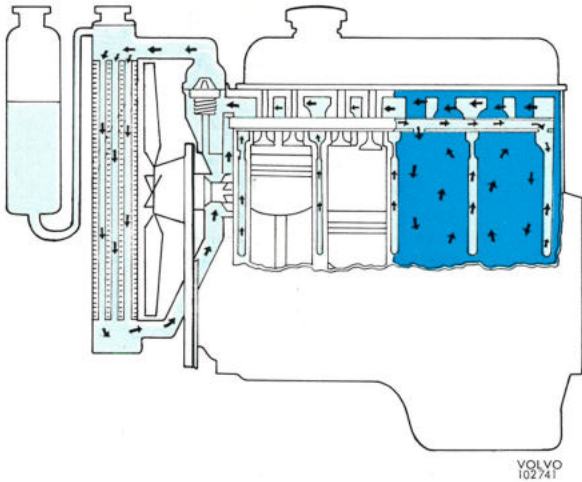
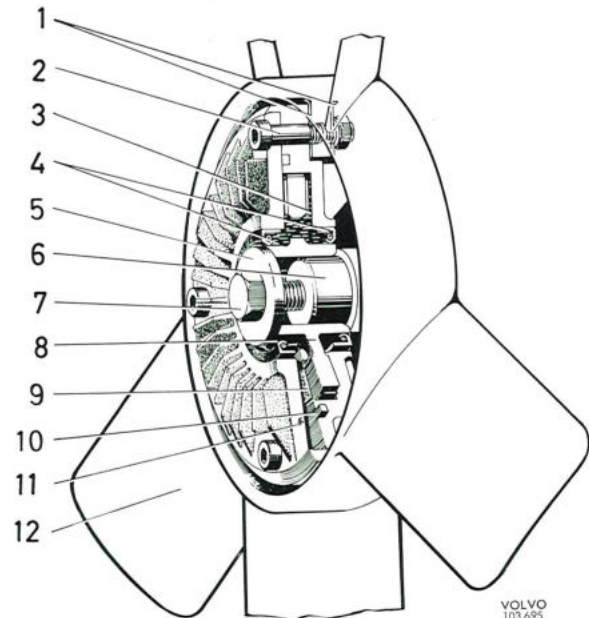
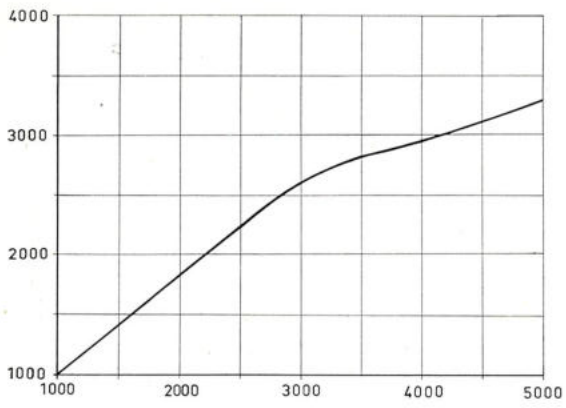

Fig. 2-123. Sealing cooling system
Fig. 2-124. Viscous fan
Fig. 2-130. Curve for fan coupling slip
The engine is water-cooled and the cooling system is of the sealed type, see Fig. 2-123. The B 20 A engine is fitted with a fixed fan. A speed-regulated fan, a so-called viscous type (see Fig. 2-124), is fitted on the B 20 B unit. Its function is to ensure that the fan blades do not exceed a certain speed even if the engine speed is exceeded. See Fig. 2-130. The five fan blades are mounted asymmetrically to keep down the noise level. The fan coupling consists of the casing (11, Fig. 2-124) in which the plastic fan blades (12) are secured with the bolt (2). The casing (11) has two halves which, however, cannot be separated for repairs, the fan coupling then being replaced complete. The hub (8) has a light fit on the water pump flange (6) and is locked by means of the center bolt (7). The hub is provided with a slip disc of friction material (9) surrounded by oil. During idling and at low speeds, the
slipping is insignificant, so that the fan provides an air current for good cooling. When the ingoing speed (that of the water pump) exceeds about 2600 r.p.m., the slipping increases (see Fig. 2-130). With this arrangement, the fan speed should never exceed about 3000—3500 r.p.m. The fan noise output would then be low compared with a fan which runs at the same high speeds as the water pump. Compared with this latter type of fan, the output loss will be less for the viscous type fan.
The fan coupling function can be checked with a stroboscope with variable blinking frequency. Make a mark on the fan and one on the water pump pulley. Find out the speed relationship between fan and pulley by means of the stroboscope. The fan speed should follow the speed of the water pump according to the curve given in Fig. 2-130.